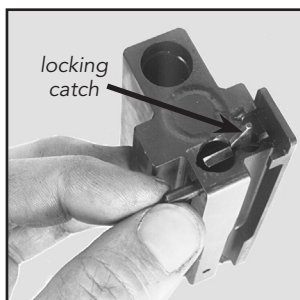

Fig. 26
2. Pull out firing pin assembly retaining pin to the left (Fig. 26).